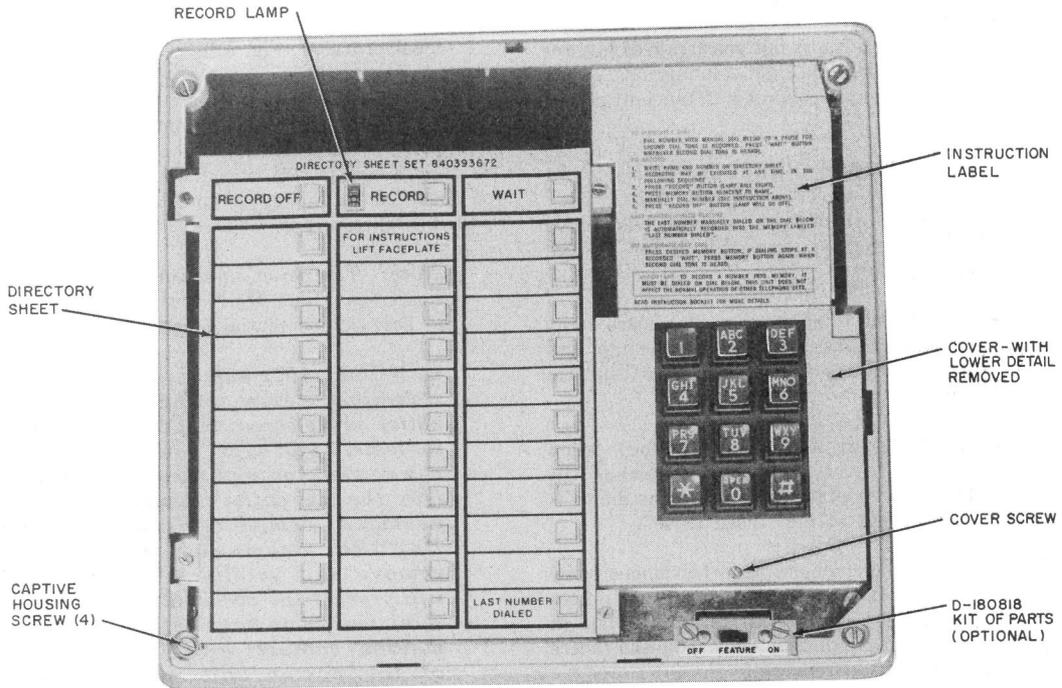

Fig. 2—2870B1M Dial, Faceplate Removed
**D. Operating Features****2.06 Operating Features (Fig. 2).**
3.05 Directory sheets (Fig. 2) are held in place by the faceplate. Additional sheets are available in directory sheet set, 840393672.
- (1) Disconnect power unit from ac outlet.
- (2) Remove the faceplate (paragraph 3.11 or 3.12).
- (3) Loosen the captive cover screw at the bottom of the cover around the dial (Fig. 2).
- (4) Remove the cover.
- (5) Loosen the two captive dial mounting screws.